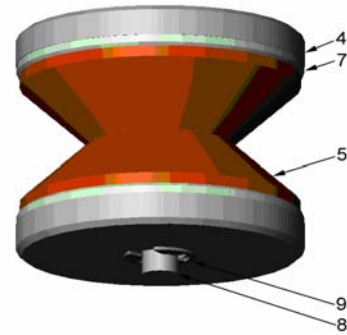

Figure 4
1.8 Secure the assembly by installing an E-clip (item #9) over the end of the Booster Cartridge; see Figure 4. Remove any slack by tightening the location of the E-clip.